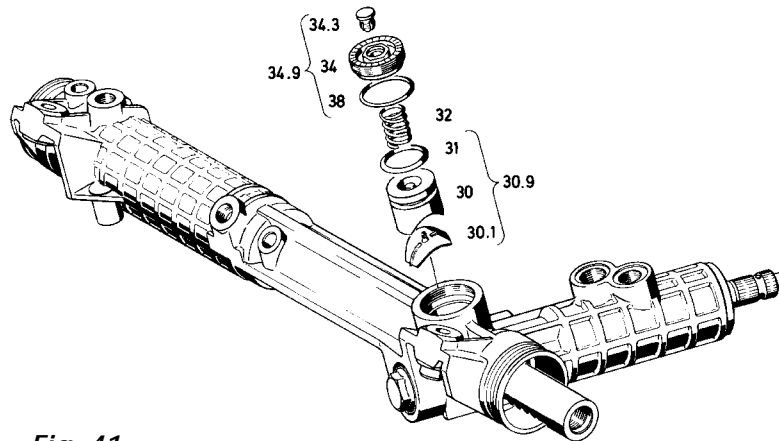

Fig. 41
Insert the O-ring (31) and the insert foil (30.1) into the yoke (30) (**Fig. 41**).